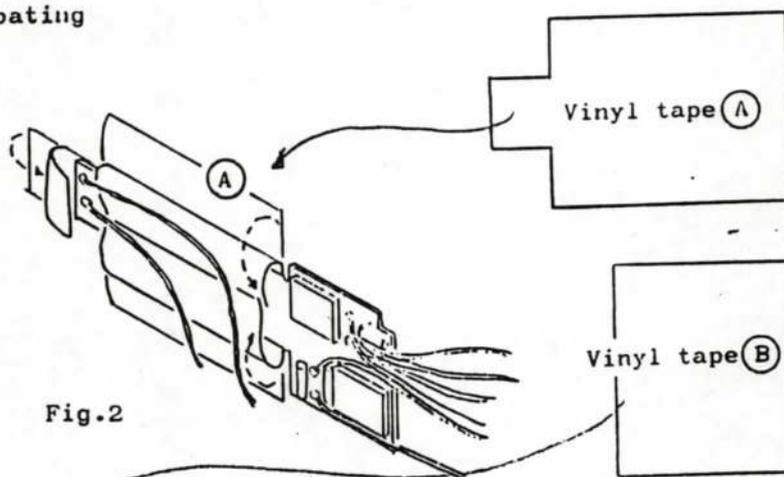

Fig. 2
- 3) Put adequate length vinyl tape on the shaded portions of sub-F.P.C. board to isolate the board from camera body. (Fig.2)